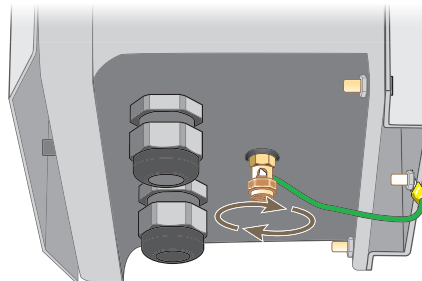

Figure 6. Connecting the grounding stud on the mounting plate to the grounding lug on the enclosure.
4. You can ground the SmartPath AP (LWN602HA) enclosure in one of two ways, depending on whether the pole to which you mount it is already grounded. For both approaches, you must connect the grounding wire from the mounting plate to the ground lug at the bottom of the enclosure and tighten the ground lug nut as shown in Figure 6.